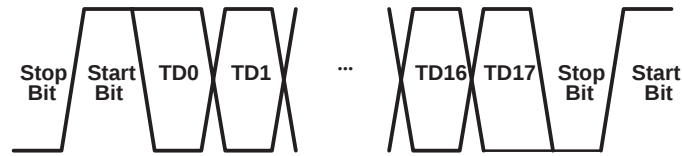

Figure 3. Serial Output Data Stream With Start and Stop Bit
All true serial interfaces require a method of encoding to insure minimum transition density so that the receiving PLL has a minimal number of transitions in which to stay locked onto the data stream. The signal encoding also provides a mechanism for the receiver to identify the byte boundary for correct deserialization. The TLK4120 wraps a start bit (1) and a stop bit (0) around the 18-bit data payload as shown in Figure 3. This is transparent to the user, as the TLK4120 internally adds the framing bits to the data such that the user reads and writes actual 18-bit data.
The parallel-to-serial shift register takes in the 20-bit wide data word multiplexed from the framing logic and converts it to a serial stream. The shift register is clocked on both the rising and falling edge of the internally generated bit clock, which is 10 times the GTX_CLK input frequency. The LSB (TDx0) is transmitted first as shown in Figure 3.